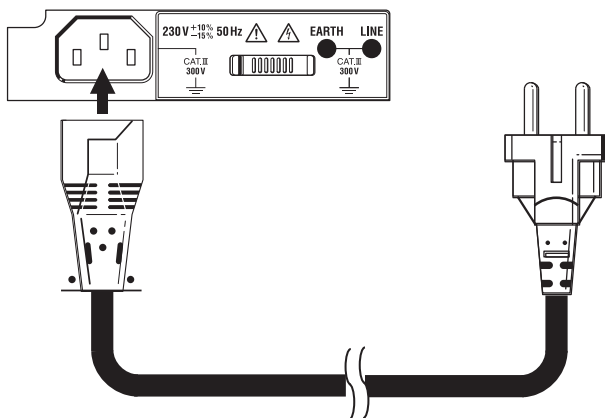
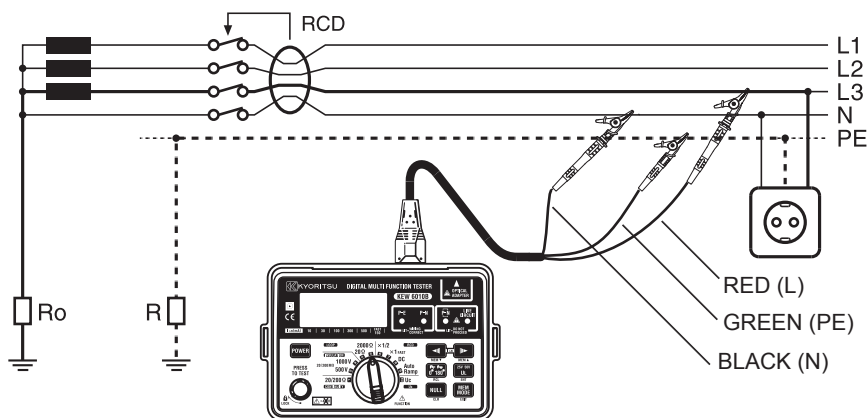

Fig 11
Fig 12
3. If testing sockets, connect the plug lead to the KEW 6010B and push the moulded plug into the socket to be tested (see Fig 11).
7. If testing lighting or other circuits, connect the three-wire lead Model 7133B (OMA DIEC :optional accessory) to KEW 6010B, connect the red (phase) lead to the phase connection of the circuit under test, connect the black (neutral) lead to the neutral connection of the circuit under test, and connect the earth lead to the earth associated with the circuit (see Fig 12).
3. Connect the instrument to the RCD to be tested either via a suitable socket outlet (see Fig 11) or using the Model 7133B (OMA DIEC) test lead set (see Fig 12).
5. Connect the instrument to the RCD to be tested either via a suitable socket outlet (see Fig 11) or using the Model 7133B (OMA DIEC) test lead set (see Fig 12).